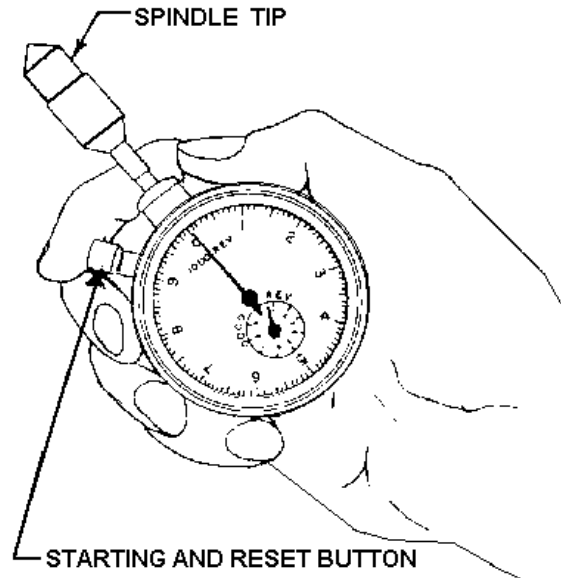

Figure 2-6.—Chronometric tachometer.
**CHRONOMETRIC TACHOMETER.**—The chronometric tachometer (figure 2-6) is a combination watch and revolution counter. It measures the average number of revolutions of a shaft per minute. The chronometric tachometer also comes with hard rubber tips, which must be inserted over the drive shaft.
When applied to a rotating shaft, the outer drive shaft of this tachometer runs free until a starting button is depressed to start the timing element. In figure 2-6, note the starting button beneath the index finger. The chronometric tachometer retains readings on its dial after its drive shaft has been disengaged from a rotating shaft and until the pointers are returned to 0 by the reset button (usually the starting button). The range of a chronometric tachometer is usually from 0 to 10,000 rpm and from 0 to 3,000 feet per minute (fpm).